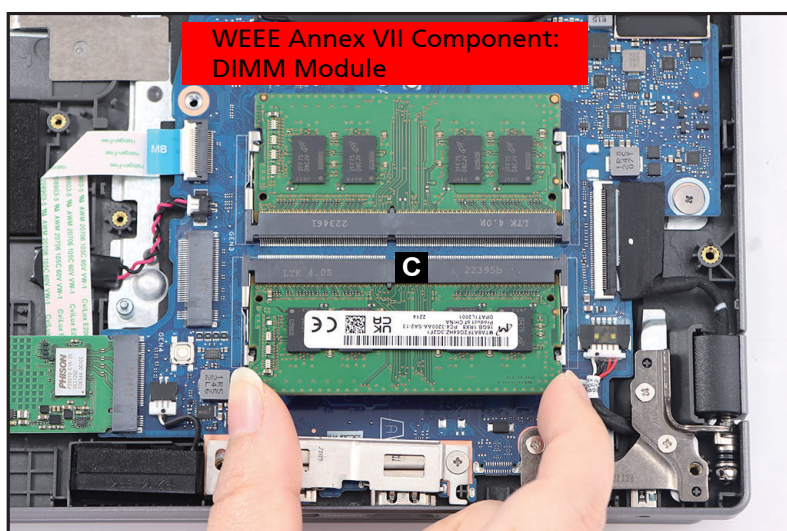

Figure 1-17. DIMM Module Removal
3. Remove the DIMM module from the mainboard connector (C) (Figure 1-17).